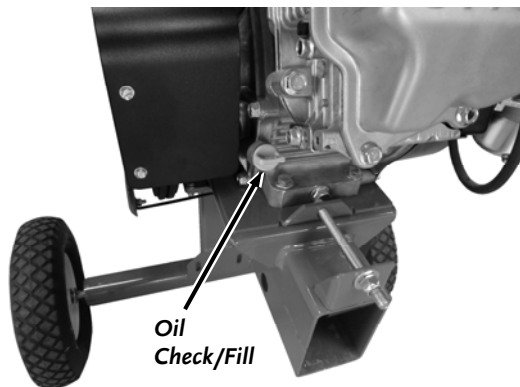

Figure 2
1. Position the machine so the Frame and Engine are level. Remove the Oil Fill/Dipstick (**Figure 2**) and clean the end of it with a rag.